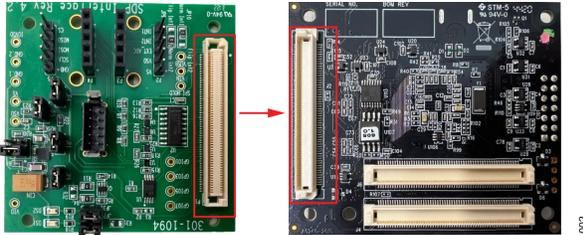

Figure 2. Connecting the Controller Board to the Interface Board
1. Connect the SDP interface board (EVAL-SDP-INTER4-Z) to the SDP controller board (EVAL-SDP-CB1Z) using the 120-pin small foot print connectors as shown in Figure 2.